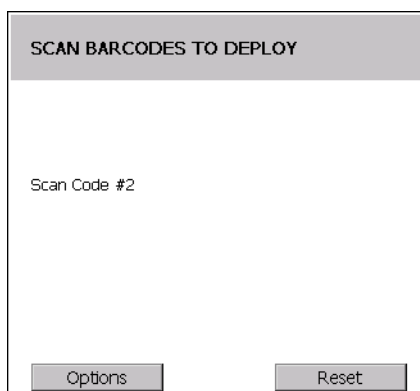

Figure 7-7 *Rapid Deployment Window*
- b. Multi-part linear bar codes (1-D bar codes) can require scanning several bar codes. Bar codes can be scanned in any order. The text box under **Bar codes left to scan...** shows the remaining bar codes to scan (see Figure 7-7).